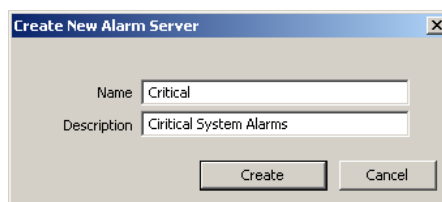

Figure 143: Create New Alarm Server dialog box.
3. In the **Create New Alarm Server** dialog box (as shown in Figure 143) enter **Name** and **Description** of the alarm server.